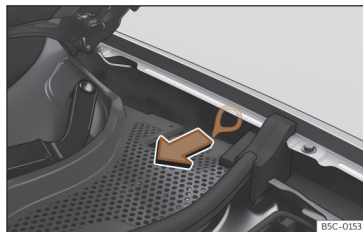

Fig. 66 Between the left wing panel and the engine bonnet hinge: Charging connector manual release mechanism puller.
The puller for the manual release mechanism is on the left hand side of the engine compartment, above the charging socket >>> Fig. 66.
- Pull the puller >>> Fig. 66.